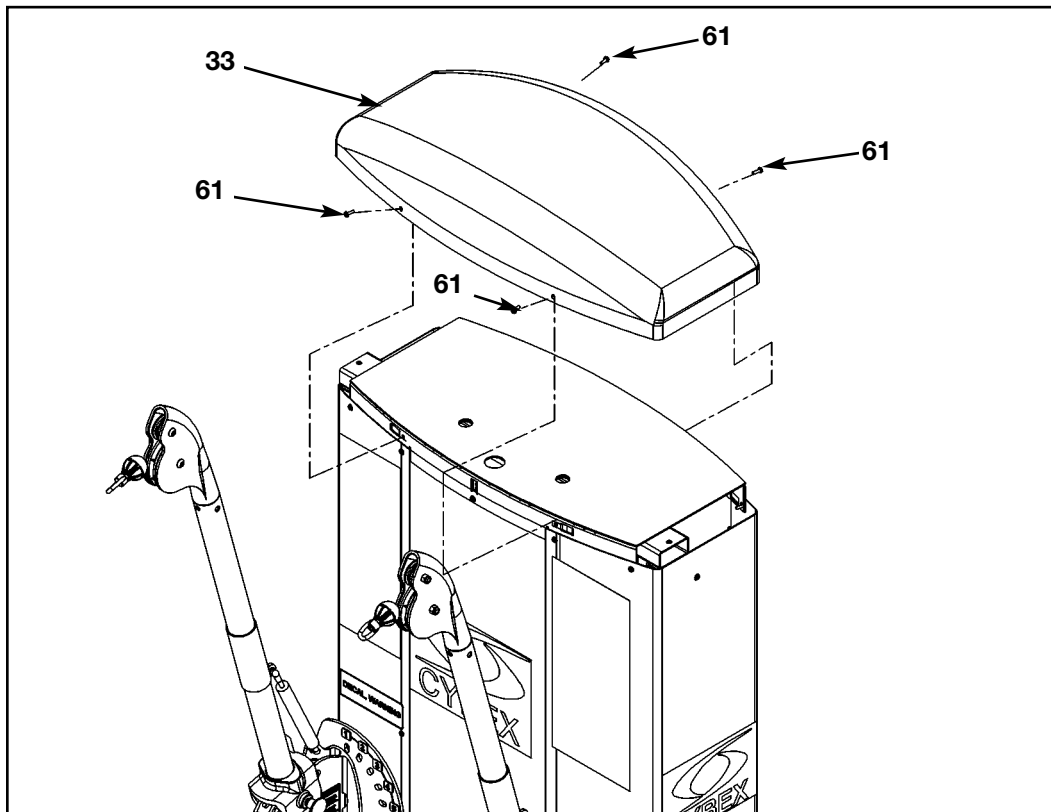

Figure 1
- B. Attach shroud (#33) using the four HHCS (#61) located in step 1A. See Figure 1.